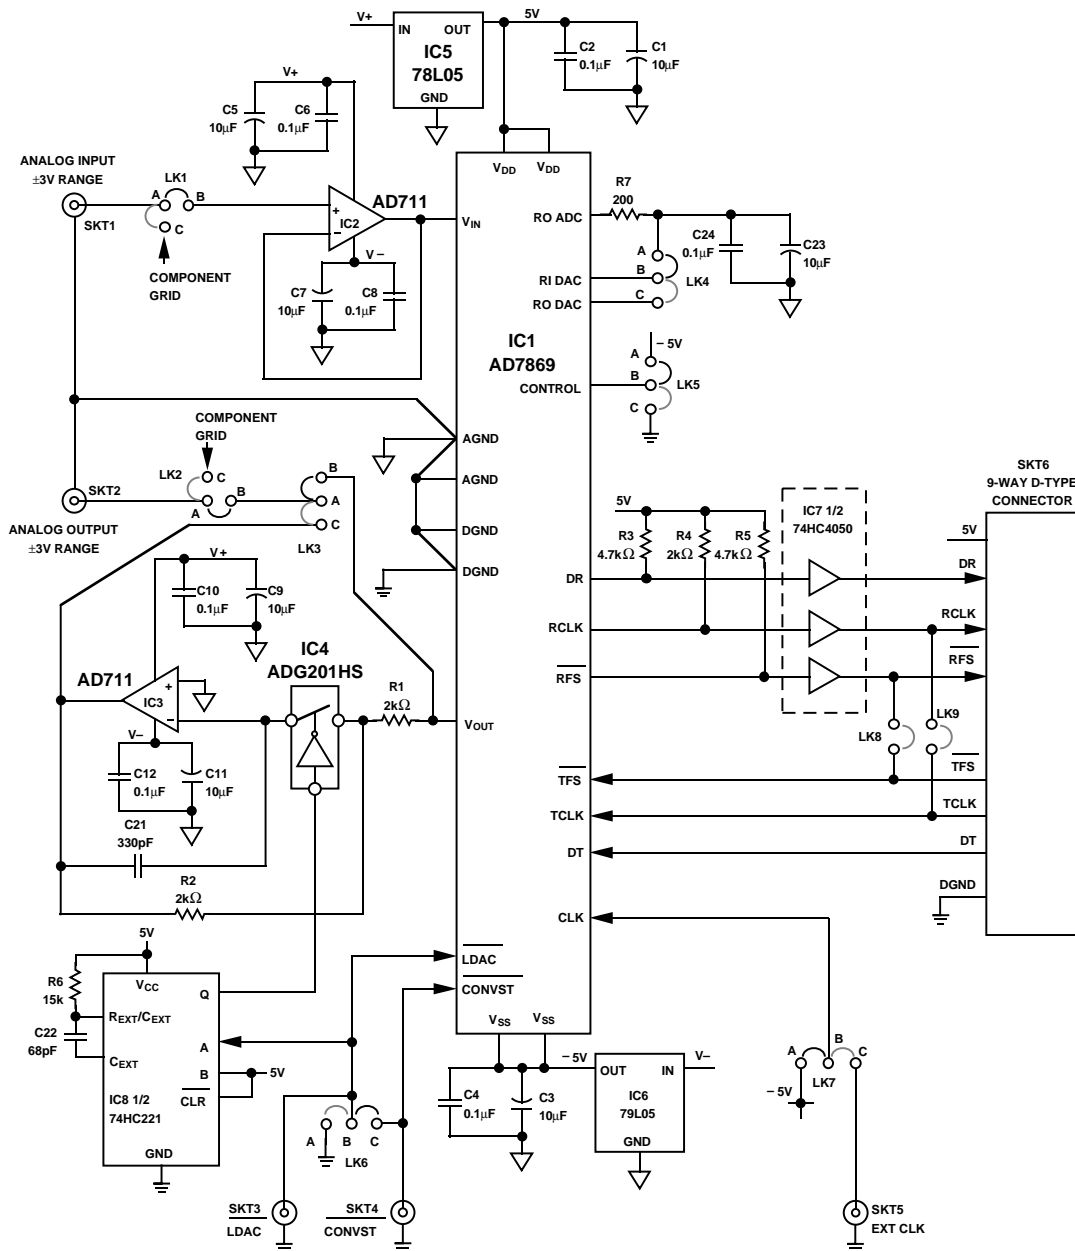
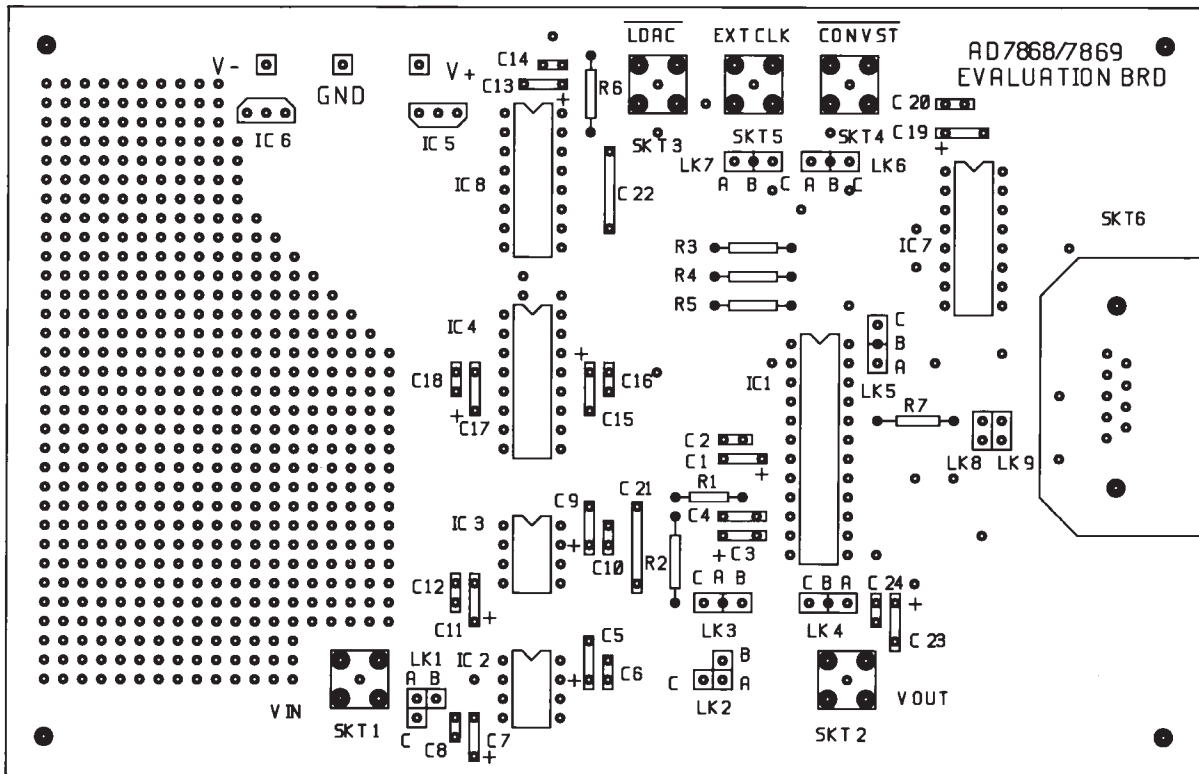

Figure 19. Input/Output Circuit Based on the AD7869
Figure 21. Silkscreen for the Circuit Diagram of Figure 19
Figure 19 shows an analog I/O board based on the AD7869. The corresponding printed circuit (PC) board layout and silkscreen are shown in Figures 21 to 23.
The PC board requires two analog power supplies and one 5 V digital supply. Connections to the analog supply are made directly to the PC board as shown on the silkscreen in Figure 21. The connections are labeled V_{+} and V_{-} , and the range for both of these supplies is 12 V to 15 V. Connections to the 5 V digital supply are made through the D-type connector SKT6. The ± 5 V analog supply required by the AD7869 is generated from two voltage regulators on the V_{+} and V_{-} supplies.